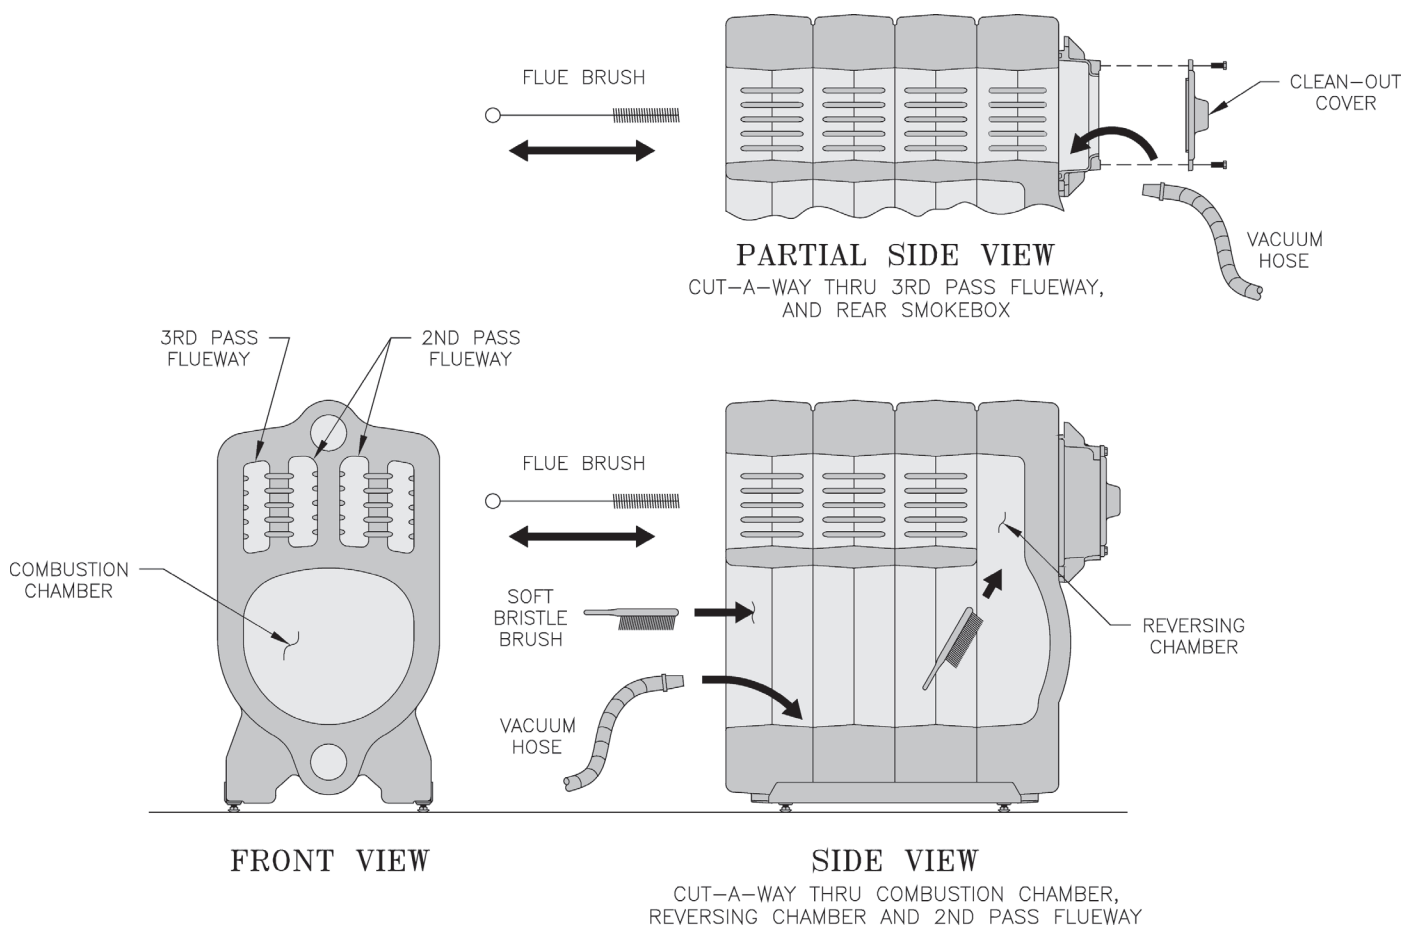

Figure 42: Cleaning of Boiler Flueways
A. CLEAN THE FLUEWAYS (See Figure 42).
1. For access to the combustion chamber remove the two (2) 3/8" - 16 cap screws. If boiler is equipped with flexible fuel line(s), swing door open.